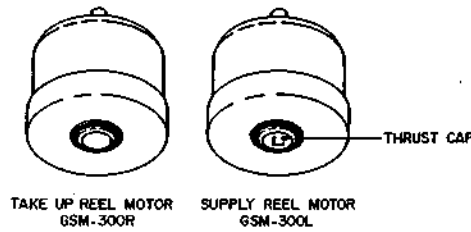

Fig. 15
8. REEL MOTOR (GSM-300) REPLACEMENT (Refer to Fig. 15)